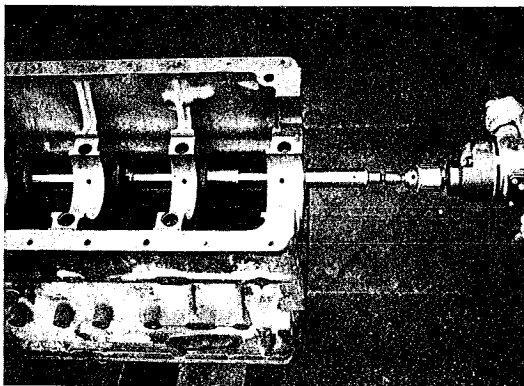

Fig 7 Boring the cam bore
7. Cut the camshaft bore completely through (fig 7).